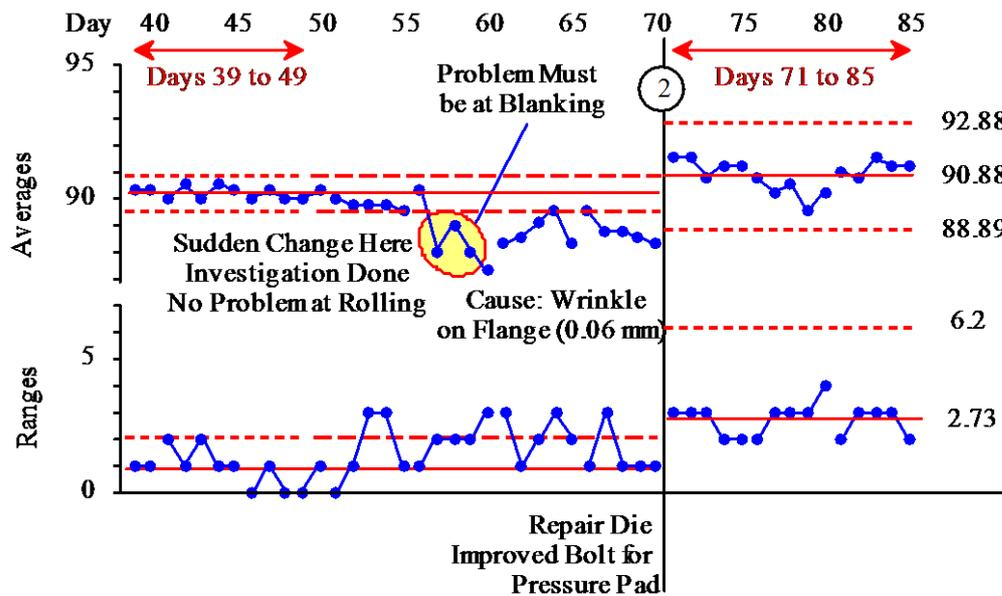

Figure 6: Tokai Rika example Days 39 to 85.
As shown in figure 6, after the better part of two weeks had passed, they finally discovered what was making the detent dimensions smaller: There was a very small wrinkle on the flange due to a defect in the die.
6. Even though assignable causes are undesired, and Tokai Rika wanted to get rid of them, they chose to operate the process without having identified and removed the effect of one such cause (see Days 57 to 70 on figure 6) – some assignable causes will warrant shut down of a process, others not, meaning that user judgment is critical.